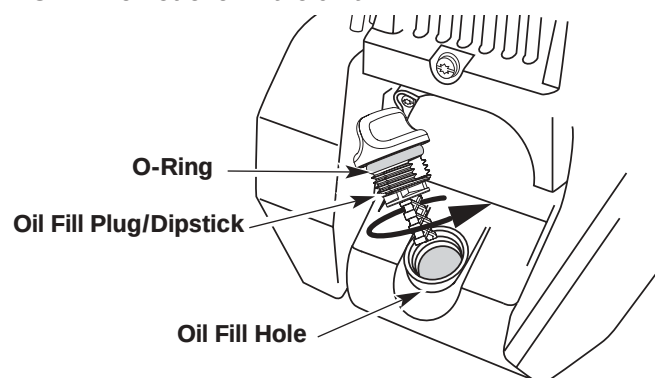

Fig. 41
6. If the level is low, add a small amount of oil to the oil fill hole and recheck (Fig. 41). Repeat until the oil level reaches the top of the dipstick.
NOTE: Make sure the O-ring is in place on the oil fill plug/dipstick when checking and changing the oil (Fig. 41).